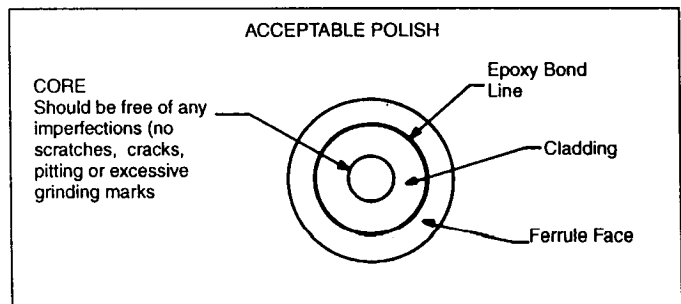

Figure 1
23. Polish terminus until an optically acceptable fiber end has been produced, approximately 1 minute. (See Figure 1). If a small amount of epoxy is on the polished surface, continue polishing until no epoxy can be seen with the naked eye. Inspect end of the optical fiber for desired finish by examining it with the Fibroscope* portable microscope or equivalent. Repeat polishing if required.
28. Using a circular motion of approximately 2 inches in diameter, polish terminus on 1 micron lapping film backed by a smooth hard surface, approximately 40-50 seconds. If a small amount of epoxy is on the polished surface, continue polishing until no epoxy can be seen with the naked eye. Inspect end of the optical fiber for desired finish using a microscope. (See Figure 1). Repeat for other termini. (For an exceptionally fine finish, continue polishing terminus for 20-30 seconds using .3 micron lapping film. Thoroughly clean termini before proceeding with this step).